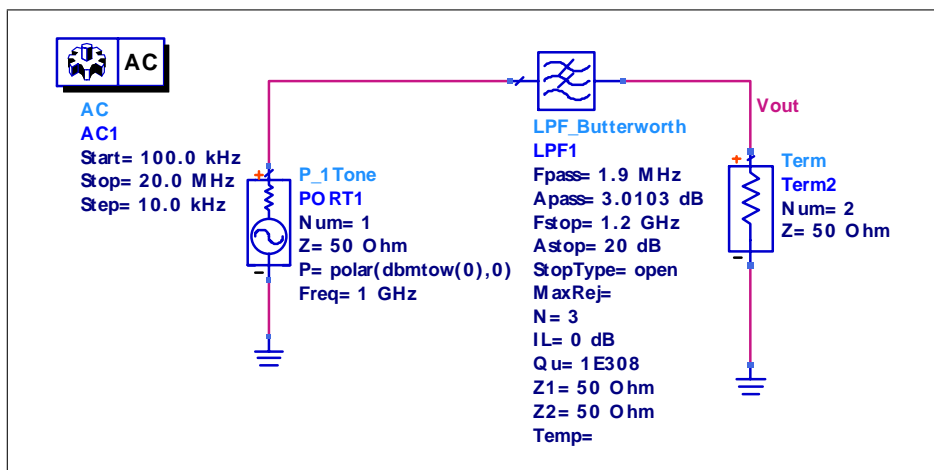

Figure 20 Simulation of LPF response, by Spectrum Analyzer
1. Simulate a Butterworth 1.9MHz LPF see Figure 20.